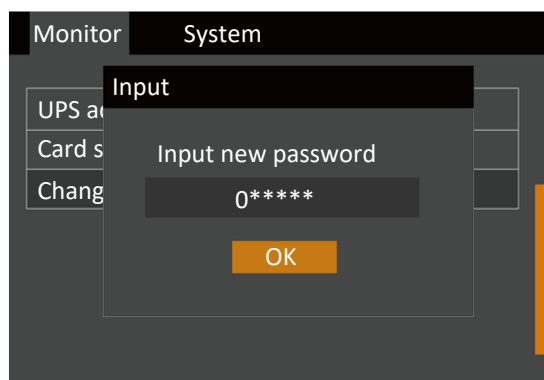

Figure 5-25 Inputting New Password
4. Enter the current password and press the key to confirm; at this point the system requests the user to enter a new password. See Figure 5-25.